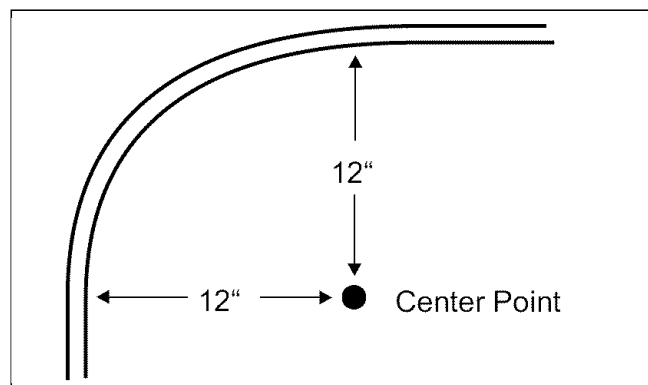

FIGURE 3: Minimum Suction Line Form
- a. No attempt should be made to bend the suction line in a shorter radius than 12". See Figure 3.